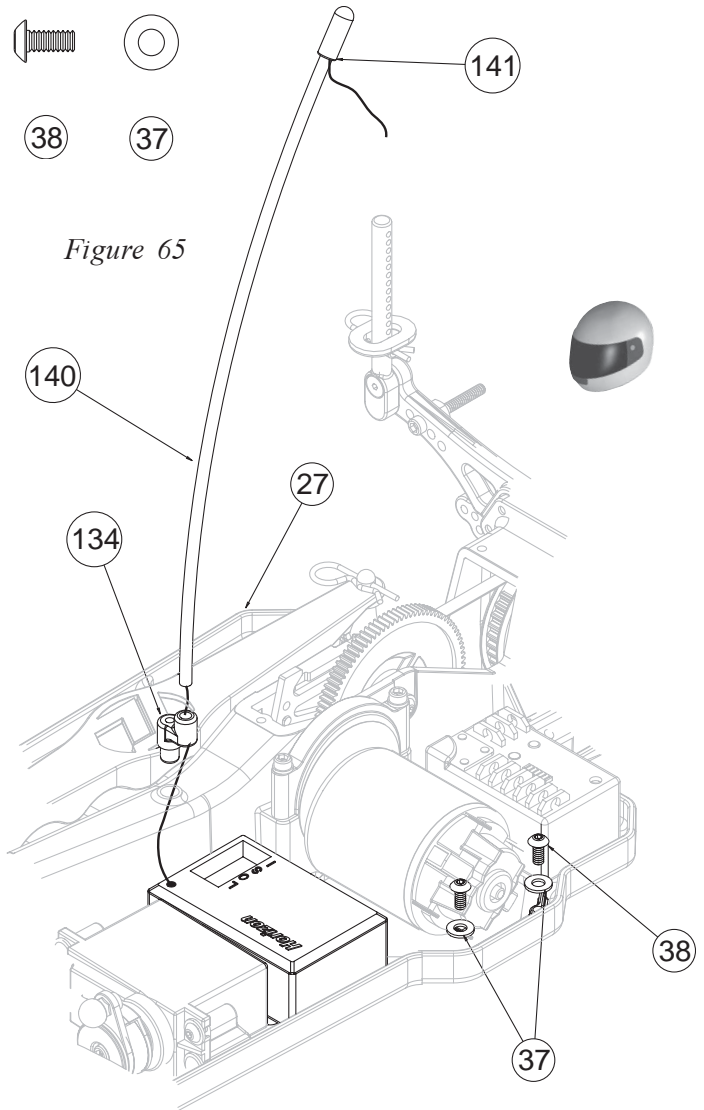

Figure 65
❑ 3. Peel the backing off the the Two-Sided Tape and install the receiver to the left side of the Chassis, between the motor and servo, with the antenna wire exiting the receiver towards the center of the car as shown in Figure 65.
❑ 6. Fold the wire down over the Antenna Tube and place the Antenna Cap (141) over the Tube, and excess wire (Figure 65).